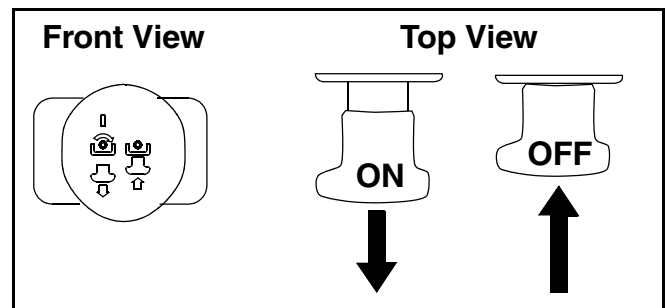

Figure 8
- Pull the PTO/Blade Engage knob outward into the engaged (ON) position. See Figure 8.